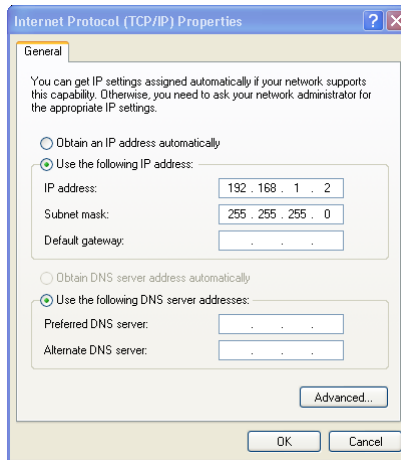

Figure 59: Internet Protocol (TCP/IP) Properties Window
6. Select Use the following IP Address, and fill in the details as shown in Figure 59.